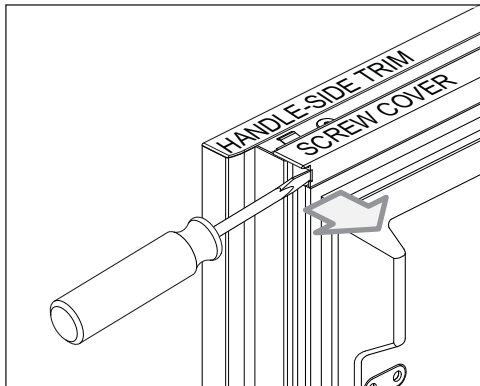

Figure 4. Screw Cover Removal
1. At the back right-hand side of the top drawer trim, insert a flat blade screwdriver into the notch in the screw cover and pry the cover away from the top trim, disengaging it from the top trim (See Figure 4).